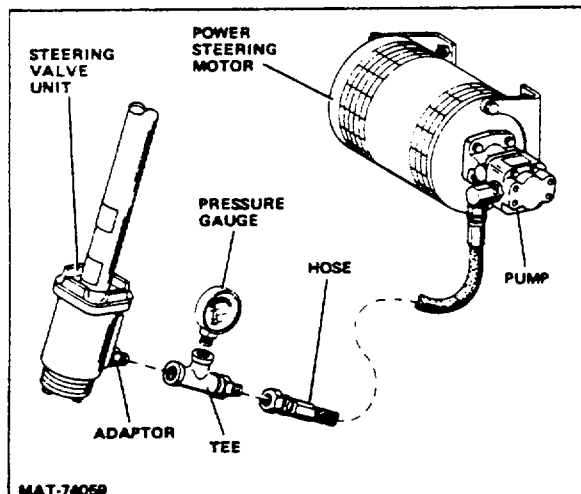

Figure 3-24. Pressure Gauge Location
3. Install a suitable tee fitting (Fig 3-24) between the adaptor and the end of the hose. Install a pressure gauge (0-300 psi range) in the tee.